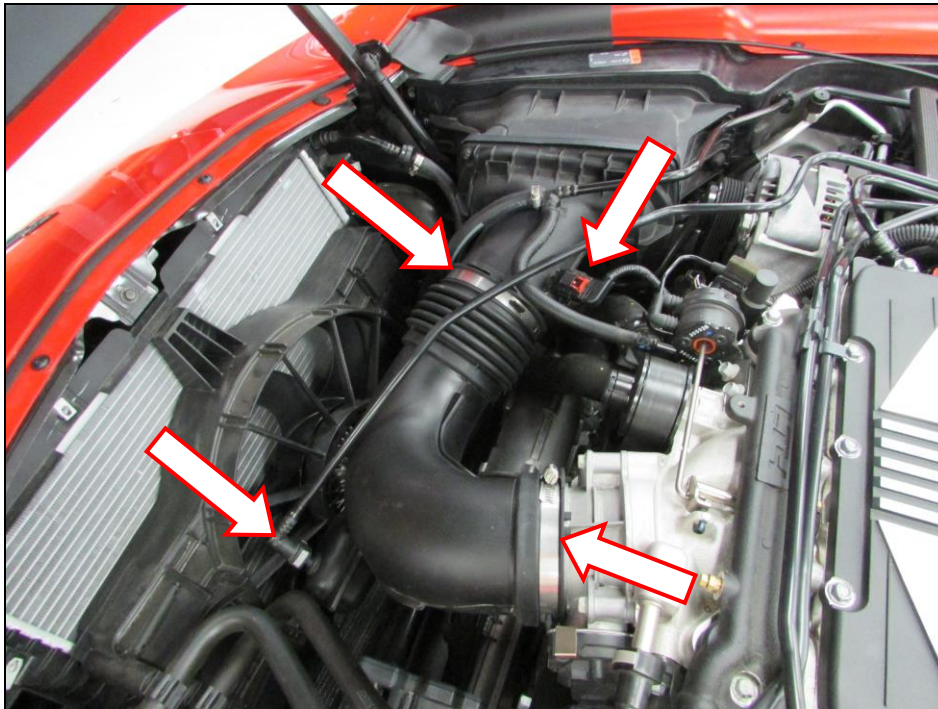

Figure 2
3. Disconnect the crankcase vent (CCV) fitting from the factory intake tube (**Figure 2**).
4. Disconnect the Mass Air Flow (MAF) sensor wiring harness (**Figure 2**).